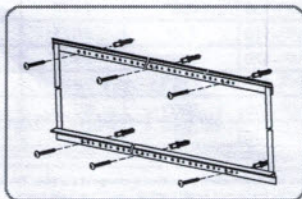

figure 12
b. Concrete wall installation: drill six proper holes on the concrete wall with electric drill, then fix the top and low bracket on the wall using the $\phi 5 \times 40$ mm tapping screw and then fasten with the anchor (3 screws on each bracket) (figure 12).